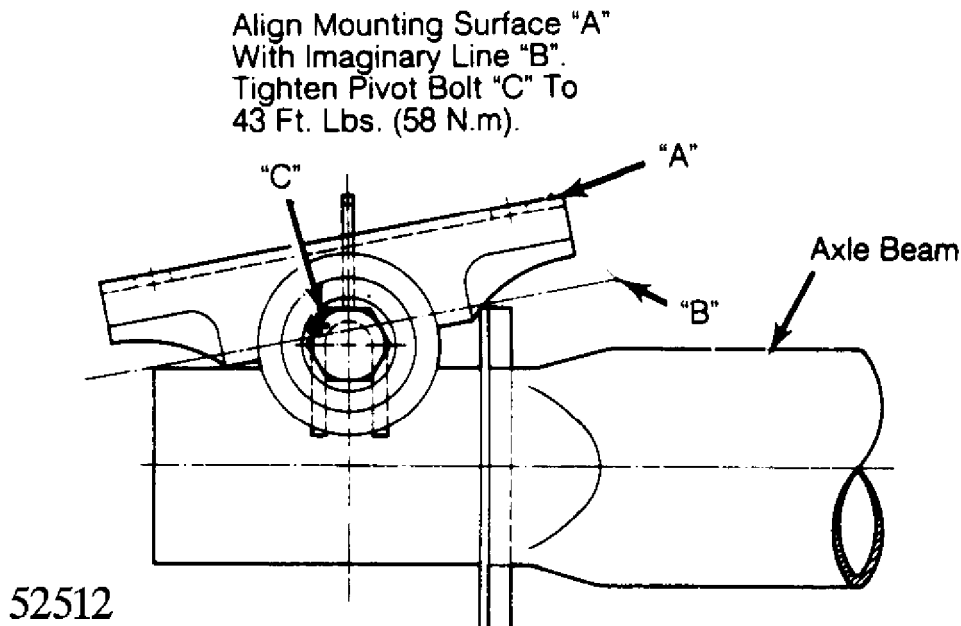

Fig. 2: Aligning Axle Beam Mounting Pad
2) Using Mounting Bracket Aligner (VW 261 or 3021), align mount. See Fig. 2. With vehicle on ground, tighten pivot bolt nut to specification.
1) If axle beam mounting has been removed, adjust mounting pad. See Fig. 2. If pad is not correctly aligned, torsional preload of mounting bushings will be incorrect.